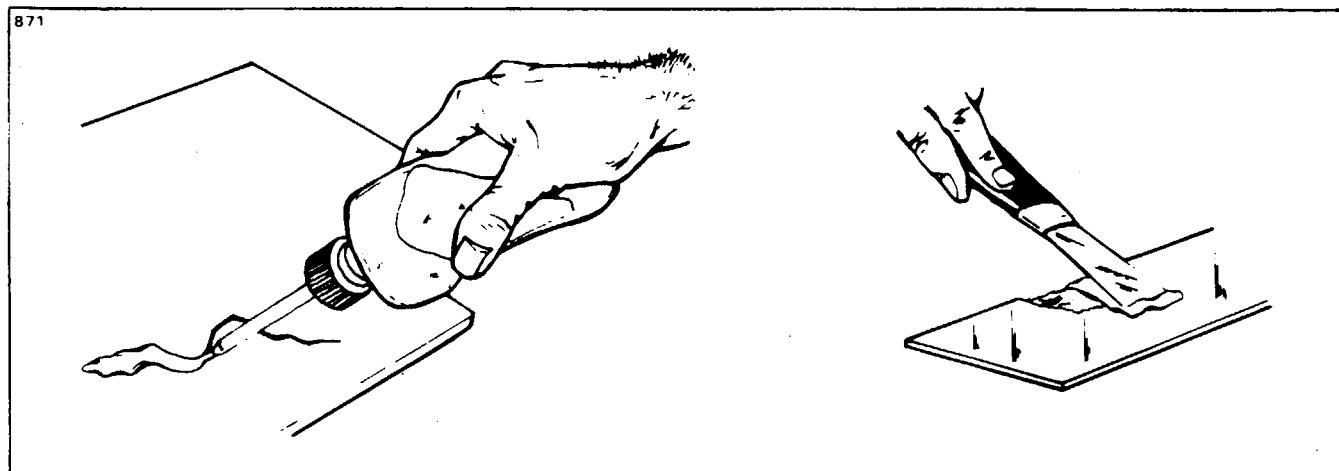

Figure 4-28. Deep Scratches, Shallow Nicks and Small Holes
c. Deep Scratches, Shallow Nicks and Small Holes: (Less than 1 inch in diameter.)(Refer to Figure 4-28.)